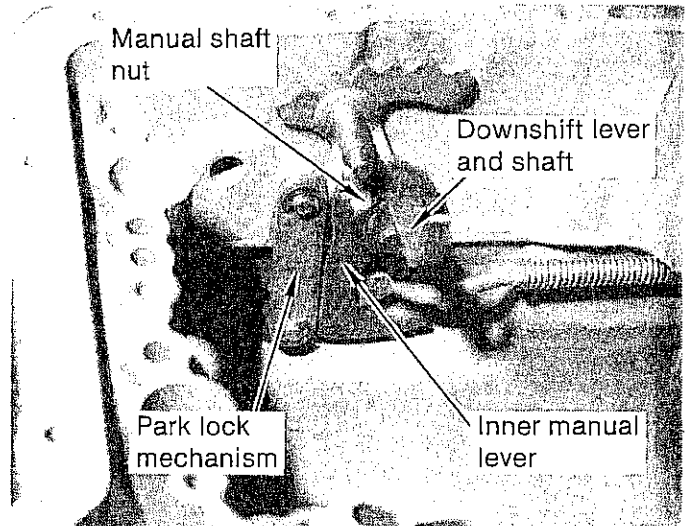

FIGURE 26
STEP 17. Slide the downshift lever and shaft out of the manual lever from the inside. (See Fig. 26) Discard the downshift shaft O-ring on the outside of the manual shaft. Note the position of the outer manual lever on your transmission and how the inner lever engages the